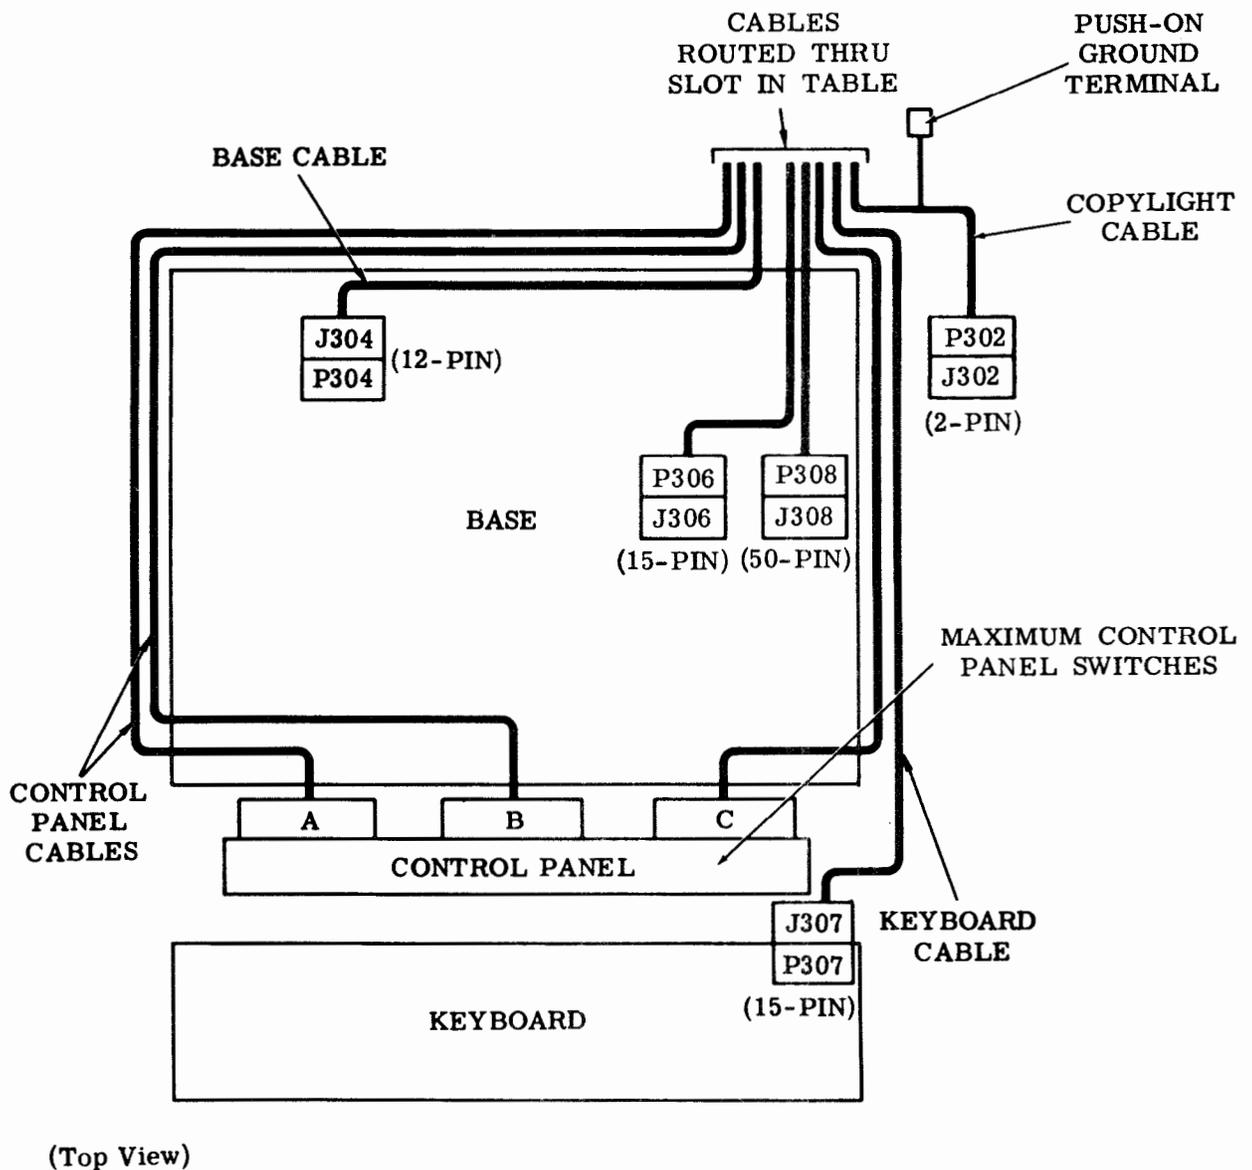

Figure 11 - Cable Routing Above Table
2.19 To remove the answer-back assembly from the electrical service unit, proceed as follows (Figure 11).